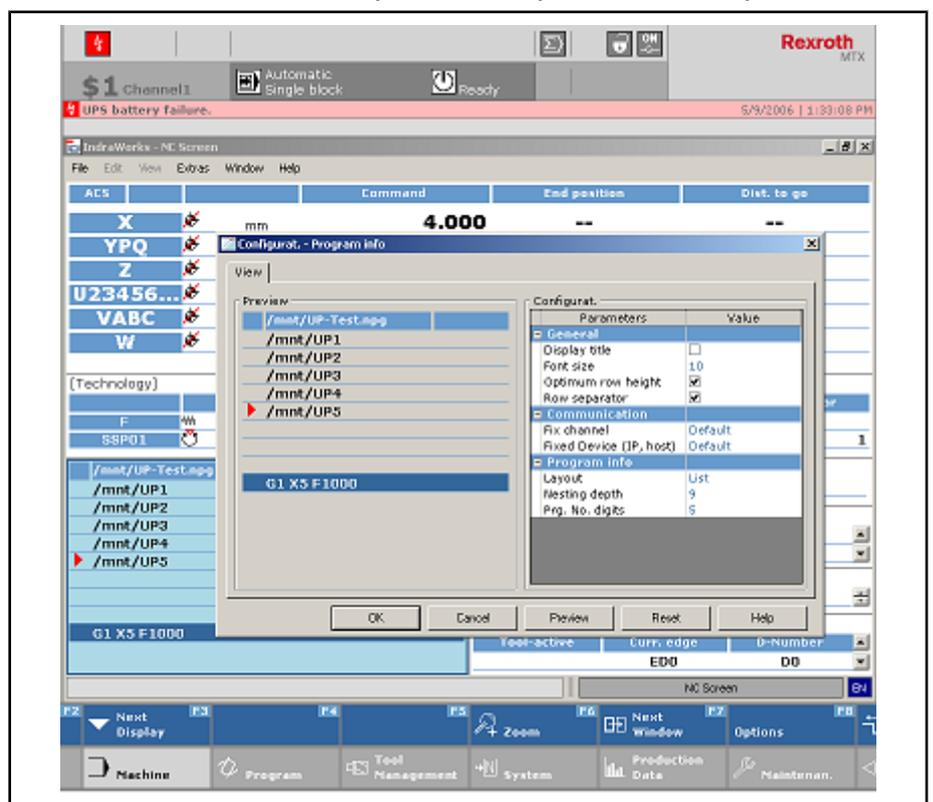

Fig.7-53: Subroutine nesting display
- Select the font size for the displayed NC program by double-clicking the currently set value (the value 10 in the example in fig. 7-53 "Subroutine nesting display" on page 173).
- Under "nesting depth", you can specify how many nesting layers are to be displayed. A nesting depth of at least 5 would be needed for the display in fig. 7-53 "Subroutine nesting display" on page 173.